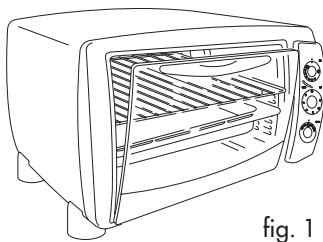

fig. 1
Fit the wire rack (O) in the upper guide (1) and the dripping pan (N) in the centre guide (2), as shown in Figure 1. A glass of water can poured into the dripping pan (N) to make cleaning easier, and prevent smoke being produced by the burning fat.
Preheat the oven for 5 minutes, with the door slightly ajar (as highlighted in Figure 1).